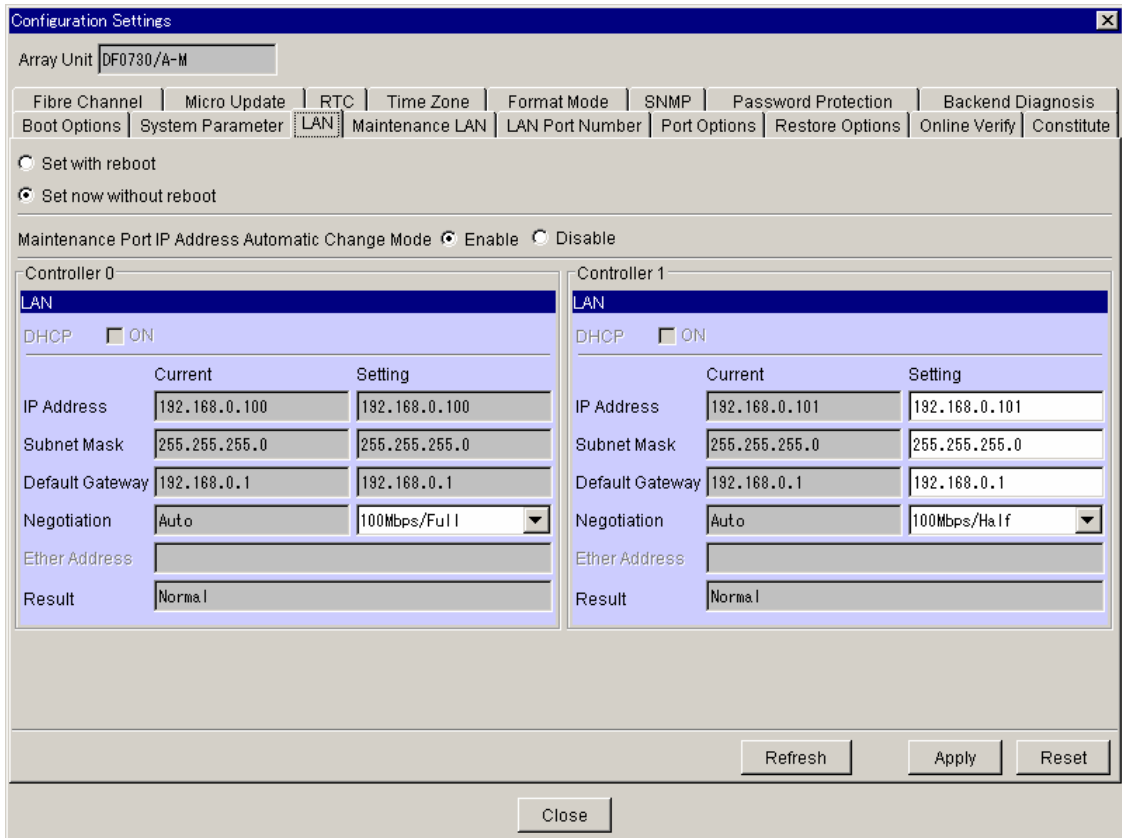

Figure 5.23 Setting LAN Configuration without Rebooting
3. Click the **LAN** tab (see Figure 5.23). For a detailed description of the **LAN** tab, refer to section 5.1.3.